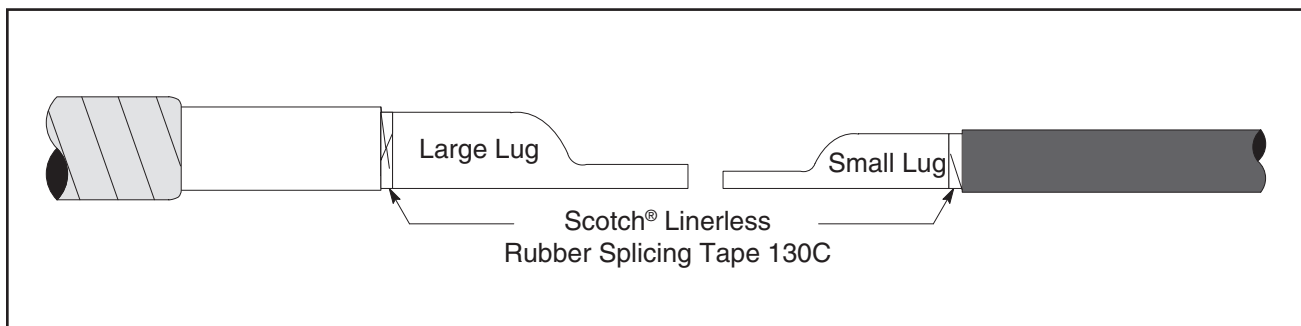

Figure 10
- 7.2 FOR 8kV ONLY. Fill lug/insulation gaps with Scotch® Linerless Rubber Splicing Tape 130C (*Figure 10*).